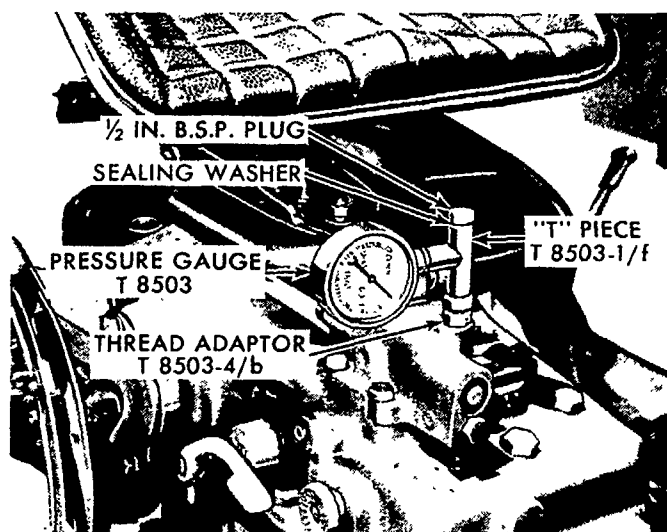

Figure 19(A)
1. Attach a pressure gauge and fitting to the remote control valve "lift" port as shown in Figure 19 or 19(A), (Single Spool Valve illustrated). The N-1100-K fitting may be used in place of the N-1100-L and N-1100-M fittings.